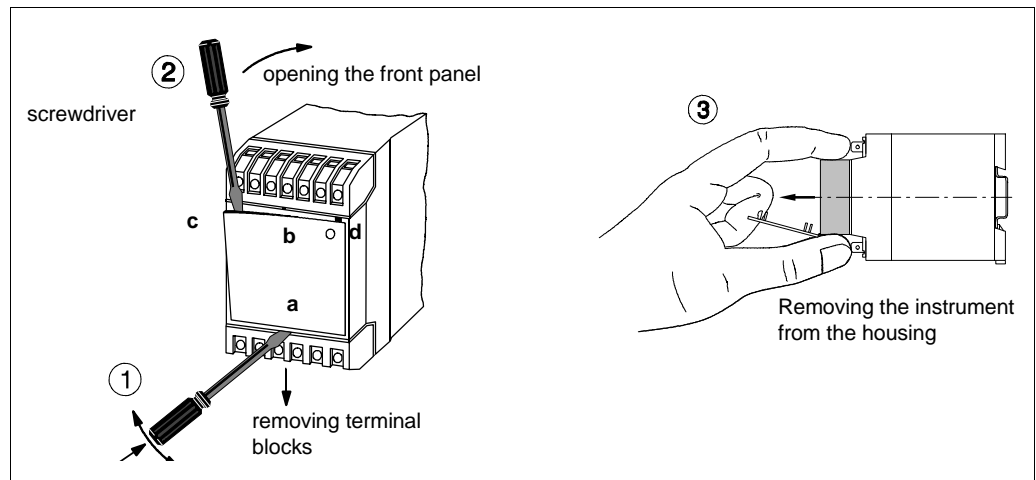

Fig. 6
- Remove terminal blocks, see Fig. 6 on Page 10